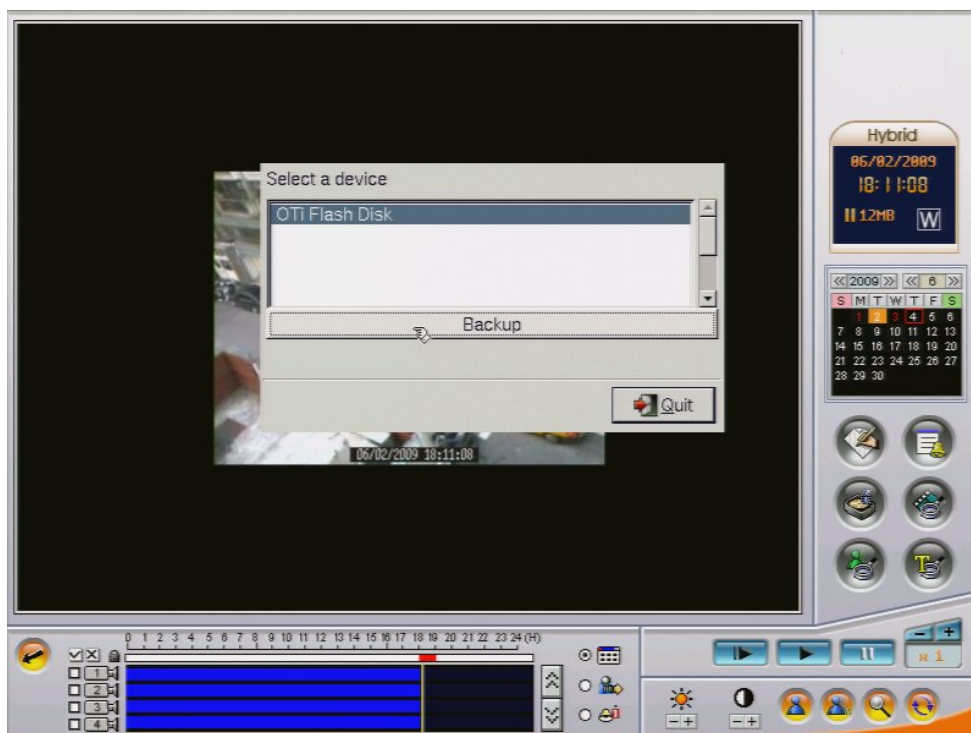

Fig. 3-31
You need at least one USB pen disk inserted on AP416 as back up device. If you answer “OK”, then, you will be prompted for back up device selection as **Fig. 3-31**. Select the device and then click “Backup” to save the image. The file name saved has the format “snapshot(X)_yyyymmdd_hhnnss.jpg” Where (X) is the camera number starting from 0 as camera#1.